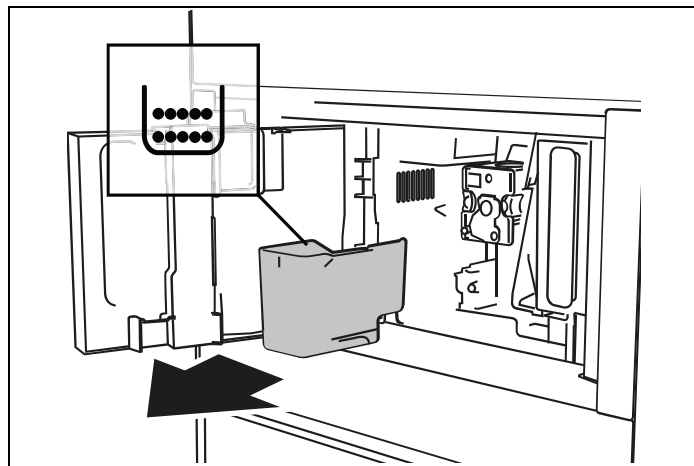

Fig. 41
When the display (B) shows the message **Empty grounds container** (Fig. 41) the grounds container must be emptied and cleaned. The appliance cannot be used to make coffee until the grounds container (A4) has been cleaned. Even if not full, the empty grounds container message is displayed 72 hours after the first coffee has been prepared (for the 72 hours to be calculated correctly, the machine must never be turned off with the main switch).